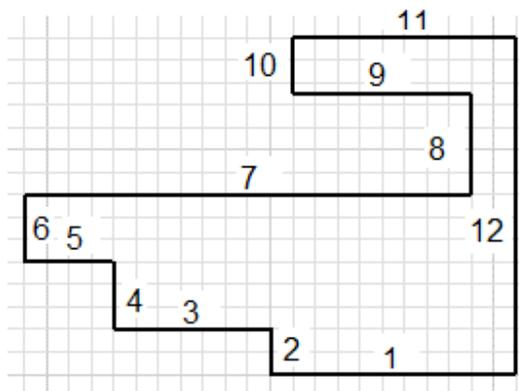

Figure 3-54 Lines numbered in the sketch
- Invoke the Sketching environment and draw the initial sketch by using the **Line** tool, refer to Figure 3-54.
1. Draw the initial sketch, as shown in Figure 3-54, using the **Line** tool. The lines in the sketch are numbered for your reference.